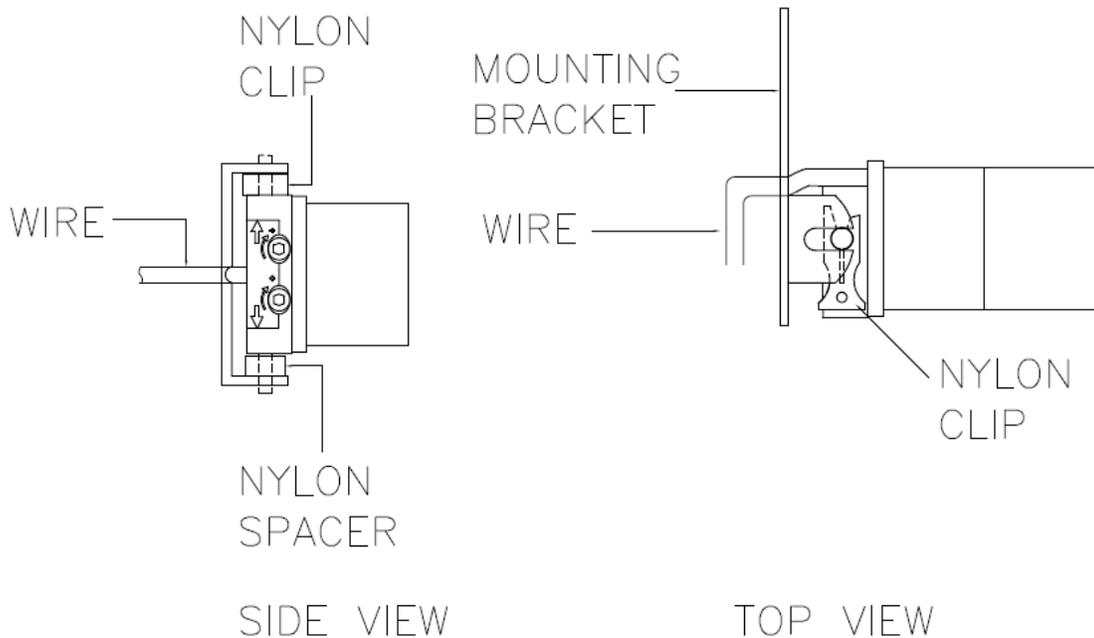

FIGURE 4
6. Unroll 10 inches of the door holding the roll tube assembly up to the brackets with the idler end down and out a little. Run the motor wire through the 3/8 hole in the motor bracket. With the limit switch facing out, fit the round nylon spacer onto the lower pin of the motor. Insert the lower pin into the bottom of the motor bracket. (See Fig. 4)